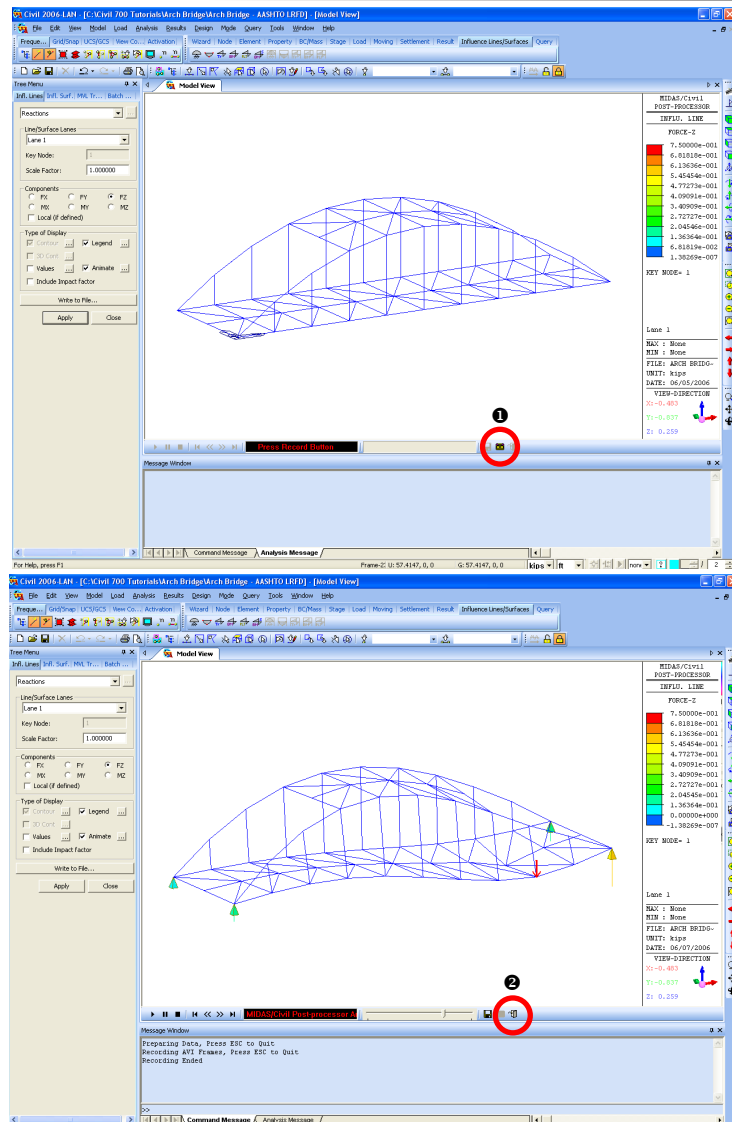

Figure 4.30 Animation of Support Reaction Influence Line
Use animation to investigate the results of the support reaction influence line (Figure 4.30).
After reviewing the animation, click Close Into to restore the original screen (Figure 4.30).
4. Click  **Record** (Figure 4.30).